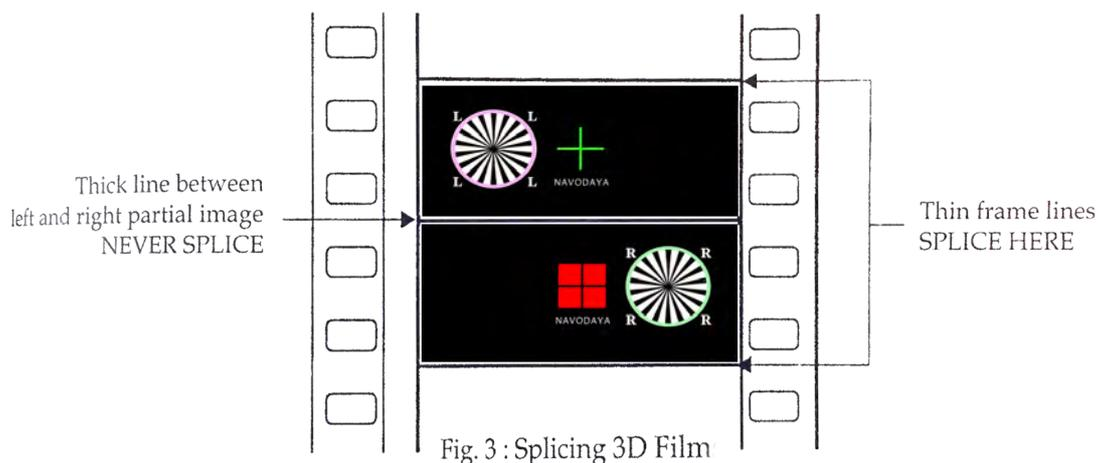

Fig. 3 : Splicing 3D Film
- Use only the right size aperture plate. Put the aperture plate approved for the 3D film into the film gate. If none is supplied enlarge a spare Cinemascope mask by filing to the full frame height of the right and left partial image (fig. 3). The frame height can vary from film to film.